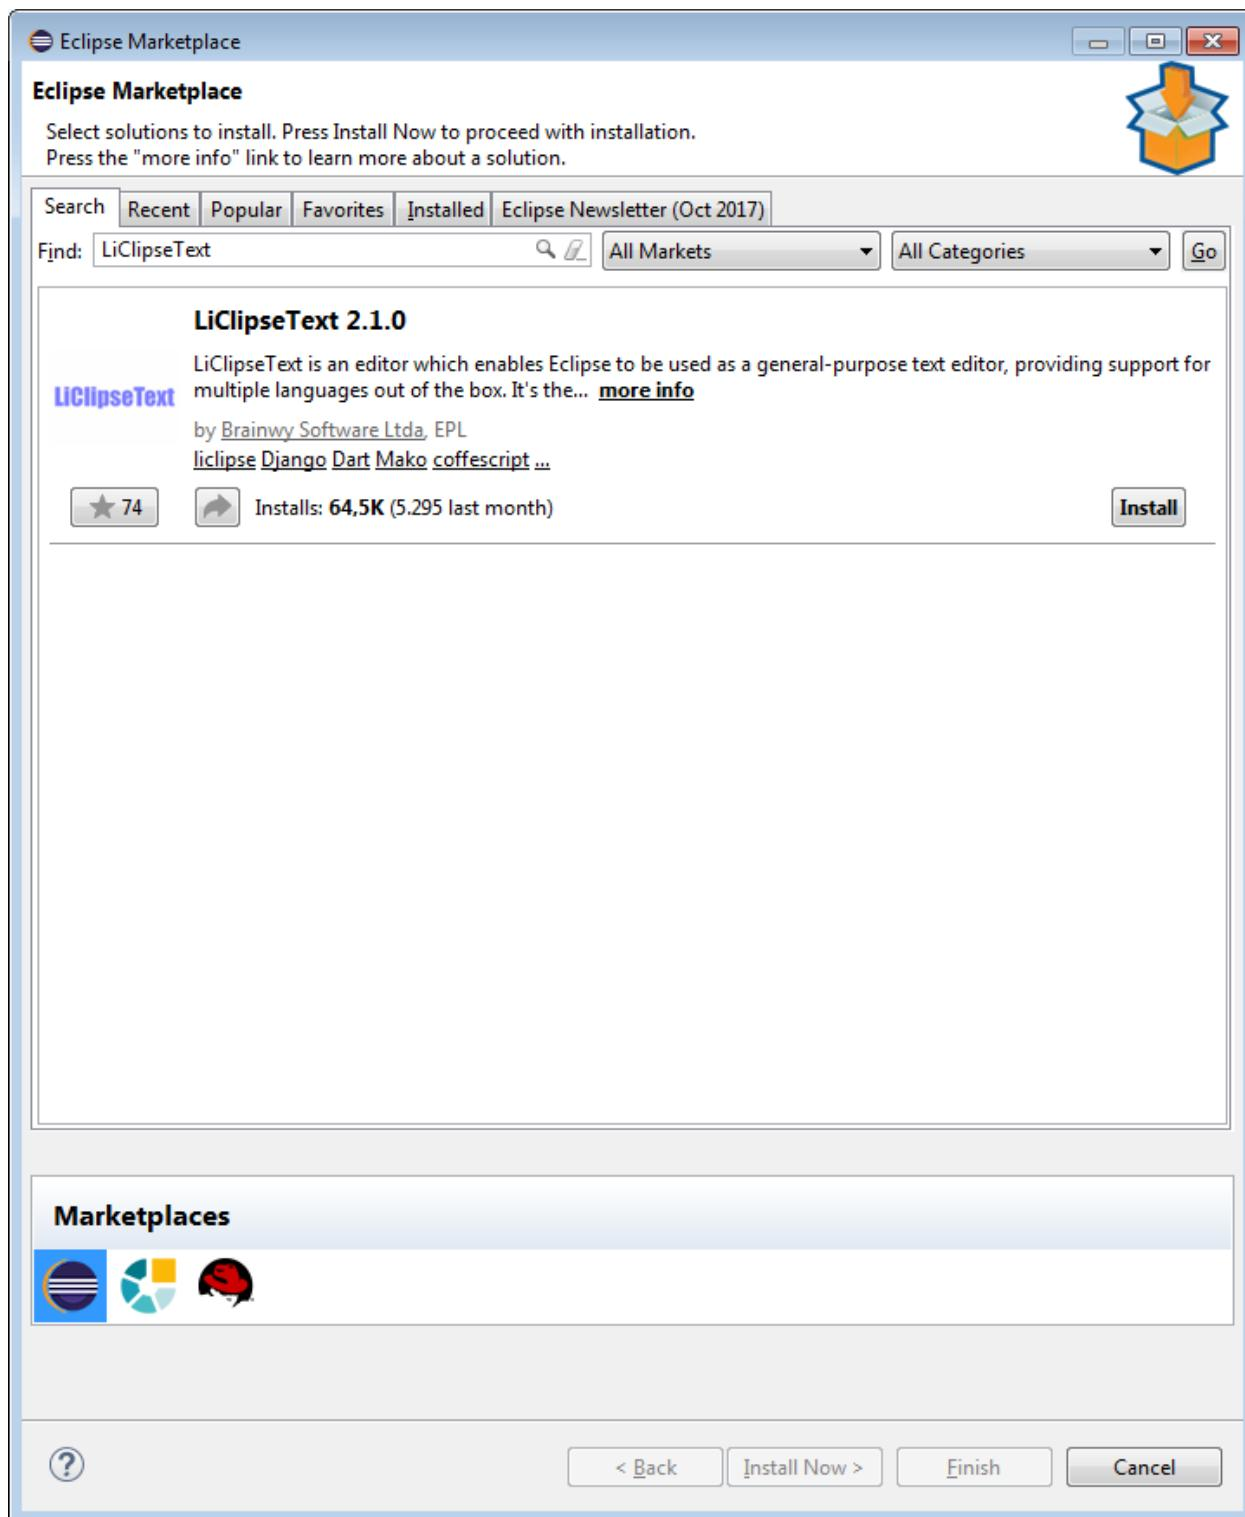

Fig. 11.3: LiClipseText Eclipse plugin
- * Search the "LiClipseText" plugin, as shown in Fig. 11.3,